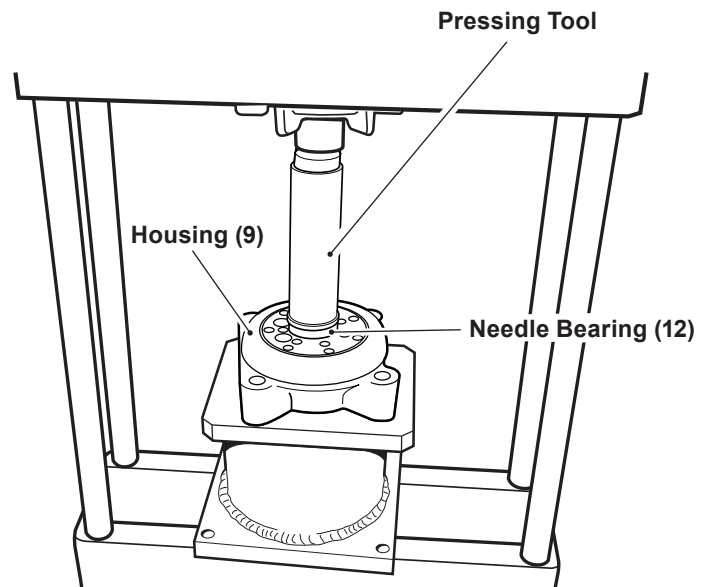

Figure 6, Needle Bearing
1. Mount seal (5), washer (4), and ball bearing (3) onto output shaft (7). See page 11.
2. Install the check valves (11).
3. Place the needle bearing (12) into motor housing (9), then; press into position. See figure 6.